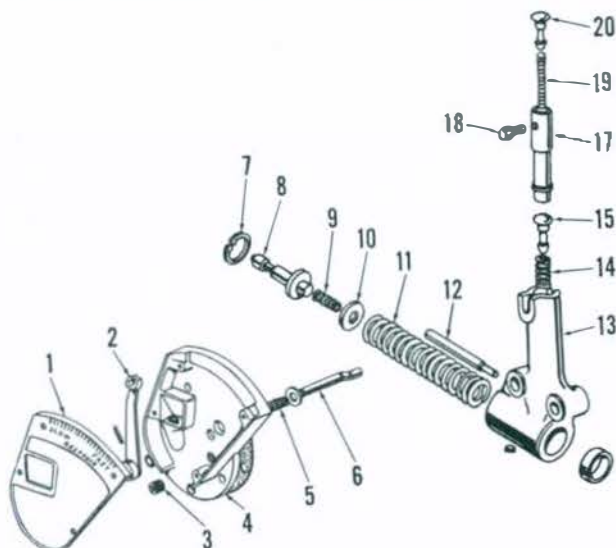

Fig. 195—Draft response dashpot, control cover and associated parts.
To disassemble the dashpot, loosen adjusting screw (18—Fig. 195) and remove adjustment rod (20) and spring (19). Invert the housing and remove plunger (17), needle (15) and spring (14). Depress piston rod and guide (8) and remove snap ring (7), then remove spring (9), piston (10) and spring (11). Expansion plugs or guide (12) can be removed from body if renewal is indicated.
Assemble by reversing the disassembly procedure using Fig. 195 as a guide. Adjust as outlined in paragraph 200 after tractor is assembled.